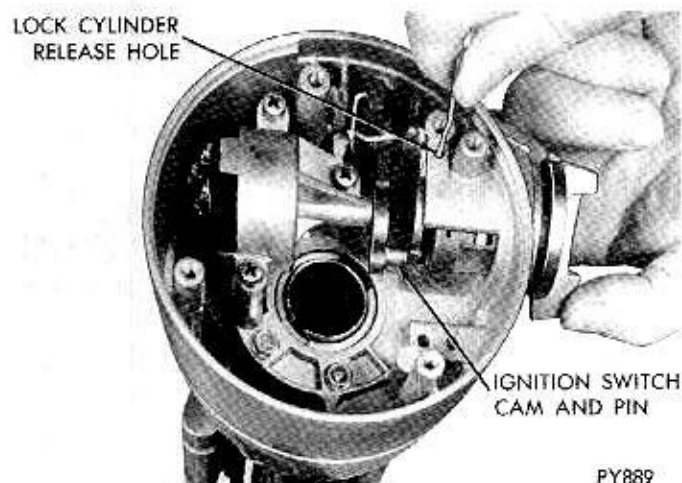

Fig. 10—Removing Lock Cylinder
(4) **Place cylinder in "lock" position and remove key.** Insert a small diameter screwdriver or similar tool into lock cylinder release hole and push in to release spring loaded lock retainer. At same time pull lock cylinder out of housing bore (Fig. 10).
(5) Remove the three retaining screws and the ignition switch assembly (Fig. 10).
(10) Position ignition switch to center detent (OFF) position. Feed wires down through the space between housing and jacket. Position switch in housing and tighten three mounting screws (Fig. 10).